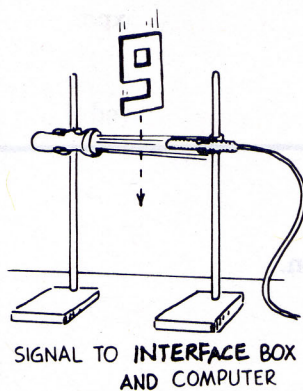

Figure 6.2
**Step 3.** Hook up the light probe to the interface box. Check to make sure the connections are made properly. Drop the figure "g" through the light beam, as in Figure 6.2. Compute the value of  $g$  using your experimental results. If your computed values for  $g$  are not within 5% of the accepted value of  $9.8 \text{ m/s}^2$ , repeat the experiment.